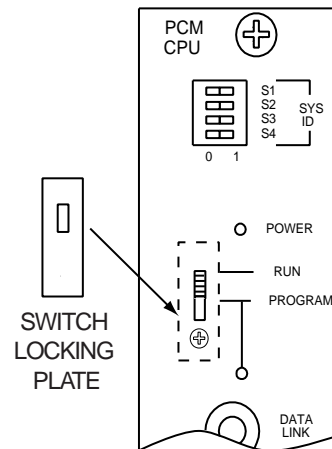

Figure 11-1:
1. Remove the switch lock on the PCMCPU module and place the PROGRAM/RUN switch (see Figure 11-1) to the PROGRAM position (down). The green LED will illuminate.